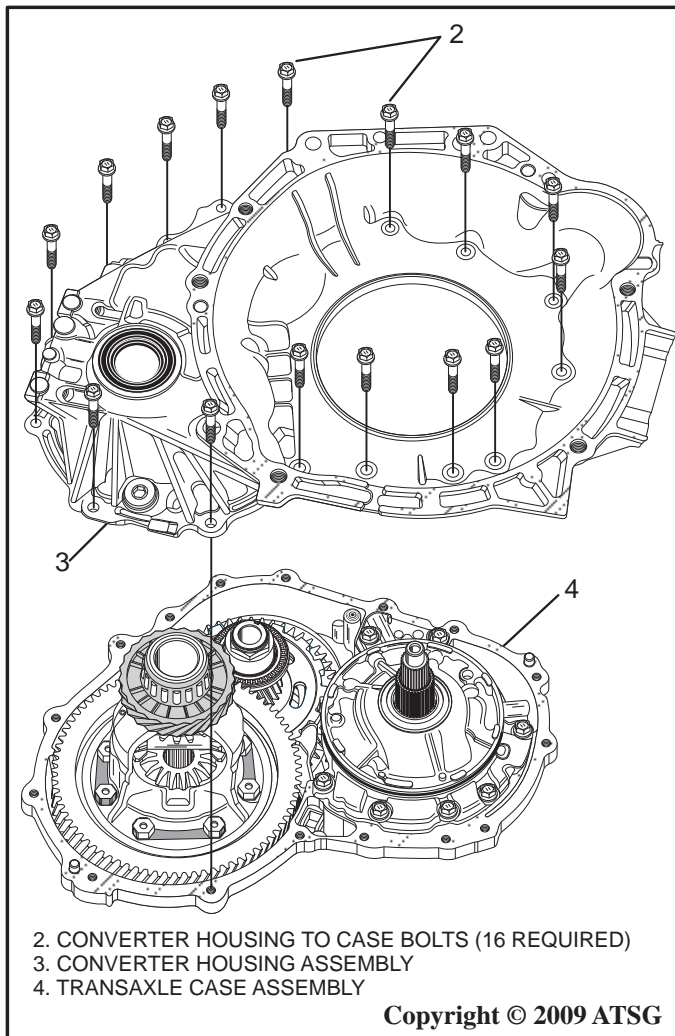

Figure 26
28. Remove the sixteen converter housing to case bolts as shown in Figure 26.
29. Once the bolts are removed, use a plastic hammer and gently tap the converter housing to loosen it from the transaxle case then remove the converter housing as shown in Figure 26.